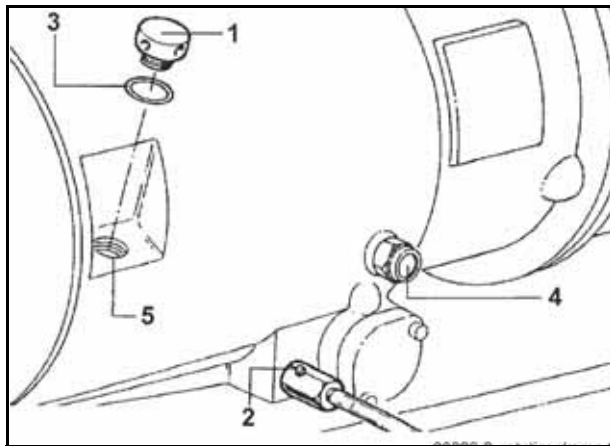

Fig. 350 Maintenance openings on compressor
- The sight glass **(4)** can be used to check the oil level **(Fig. 350)**.
- Carefully open the filler plug **(1)** (**Fig. 350**) to equalise the pressure.